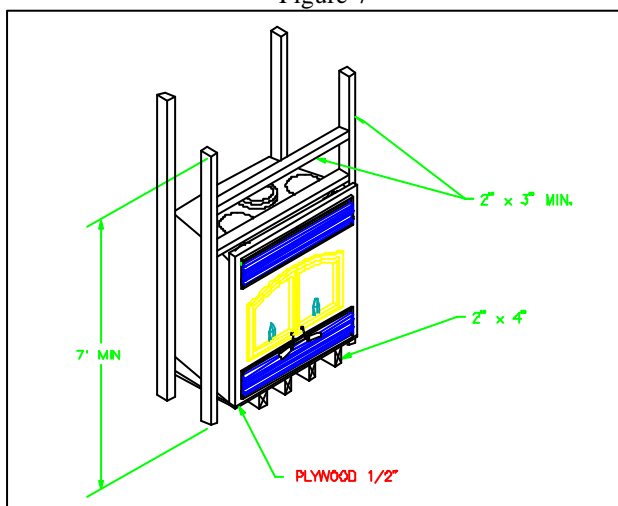

Figure 8
3. Frame the fireplace with vertical studs at the sides of the fireplace running from floor to ceiling (see figure 8). If combustible facing is to be used, position the studs back, from the front edge of the fireplace, a space the thickness of the facing material so that the facing can be installed flush with the fireplace facing. Frame headers between the vertical studs only as follows: